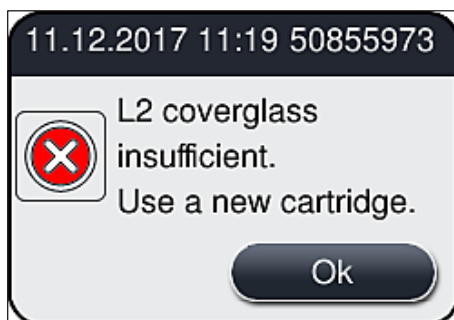

Fig. 54
- If a consumable is used up, a corresponding warning message is sent to the user, for example (→ Fig. 54).